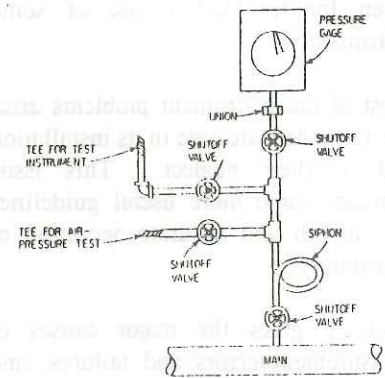

Fig.1 Connections for measuring steam pressure
- v) When measuring steam, always install a siphon, as shown in Fig 1.